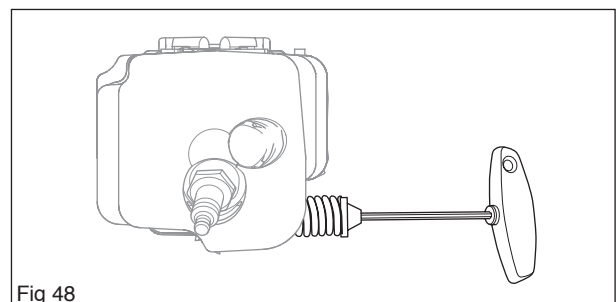

Fig 48
2. Dismantle the spring on the cylinder with the help of a 4 mm allen key. (see figure 48)